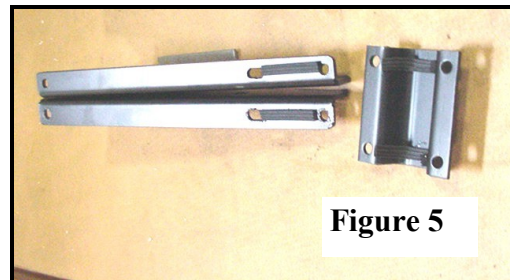

Figure 5
**C) (FIG. 5)** Install rubber weather seal on left and right chassis brackets and bumper mount as shown.